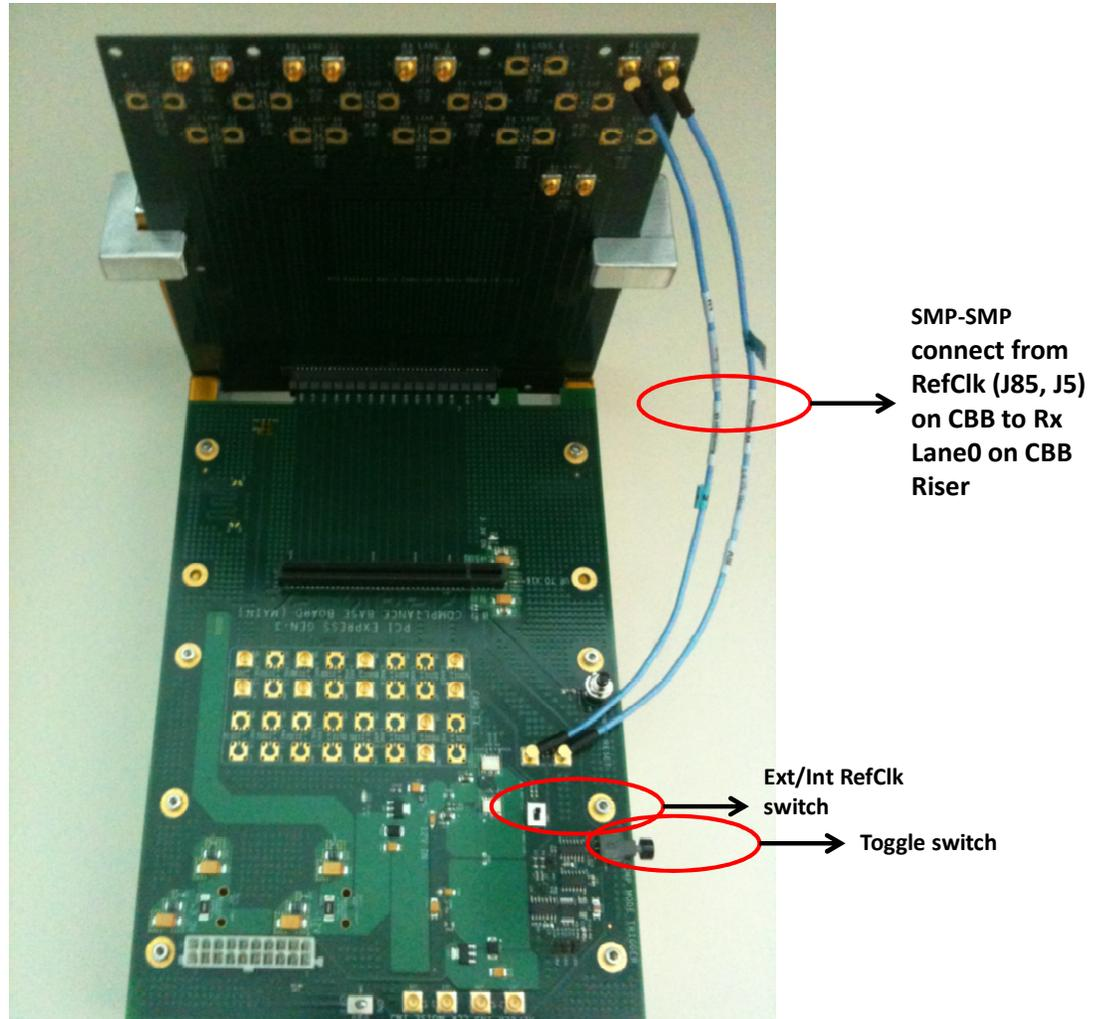

Figure 5. Gen-3 PCIe Compliance Base Board and Riser
1. After all the waveforms have been captured at Gen-1 speed, press the compliance mode toggle button on CBB (Shown in Figure 5) to change the compliance mode to: Gen-2 /-3.5db.